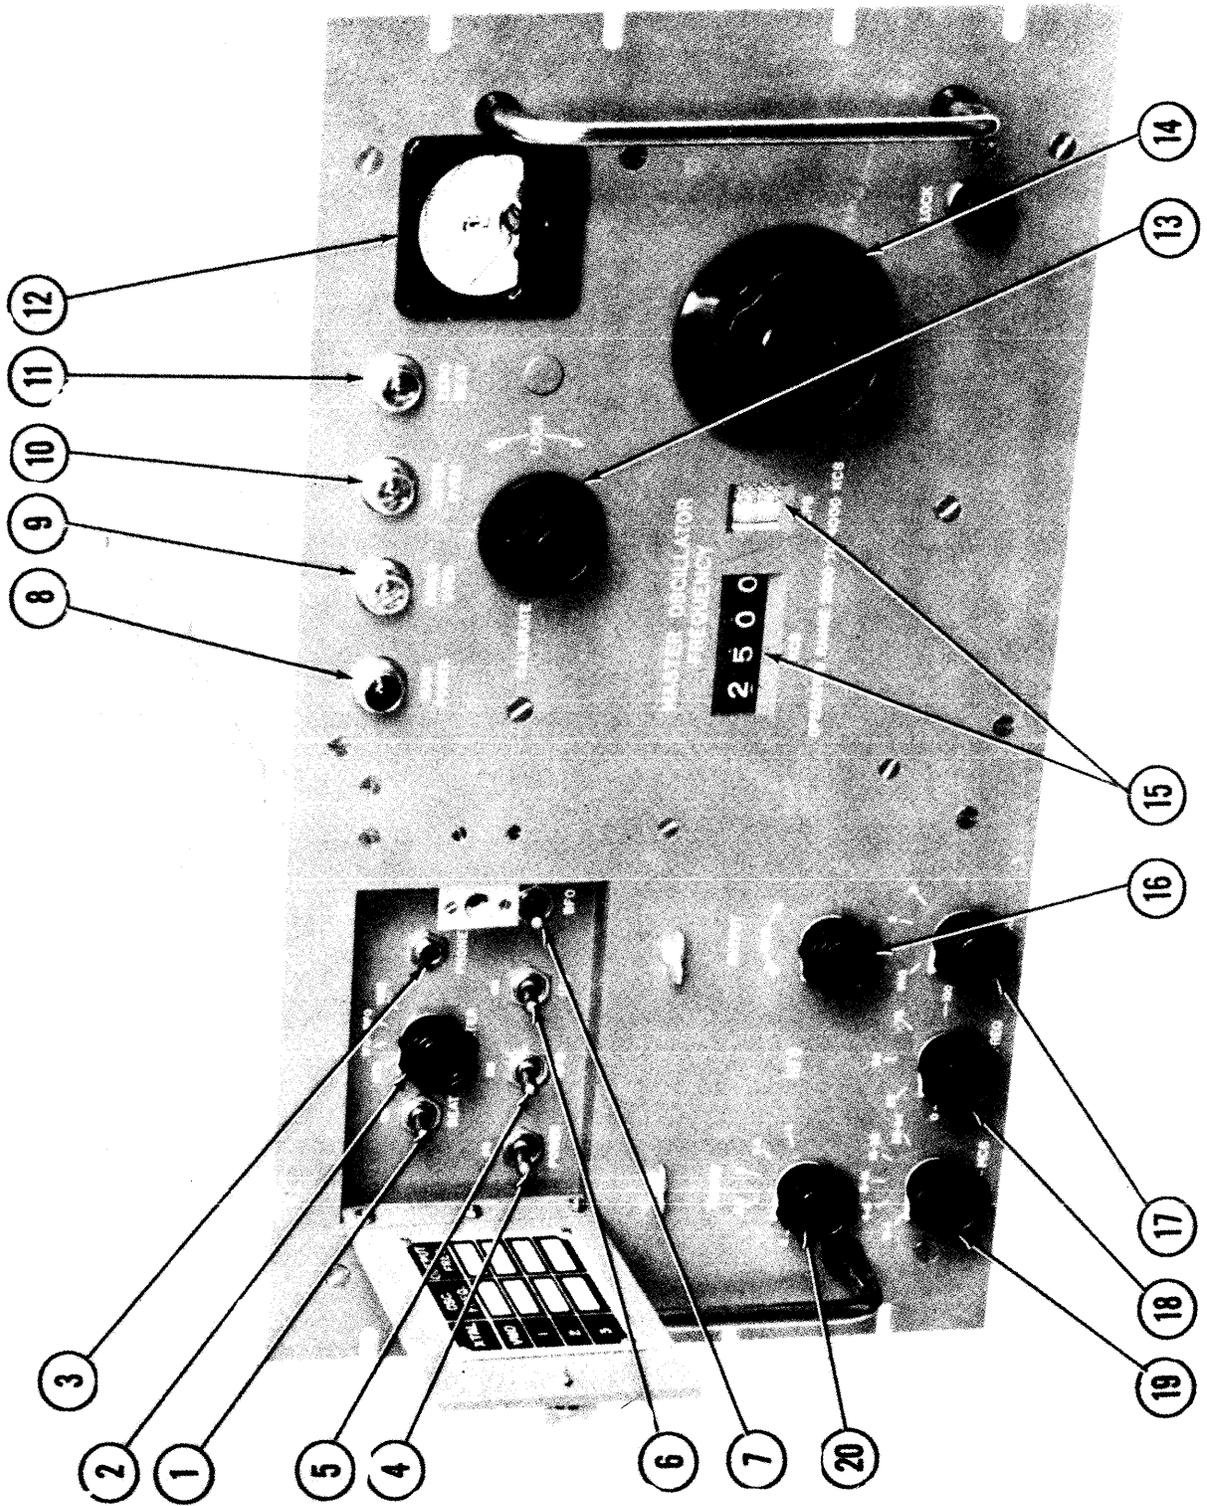
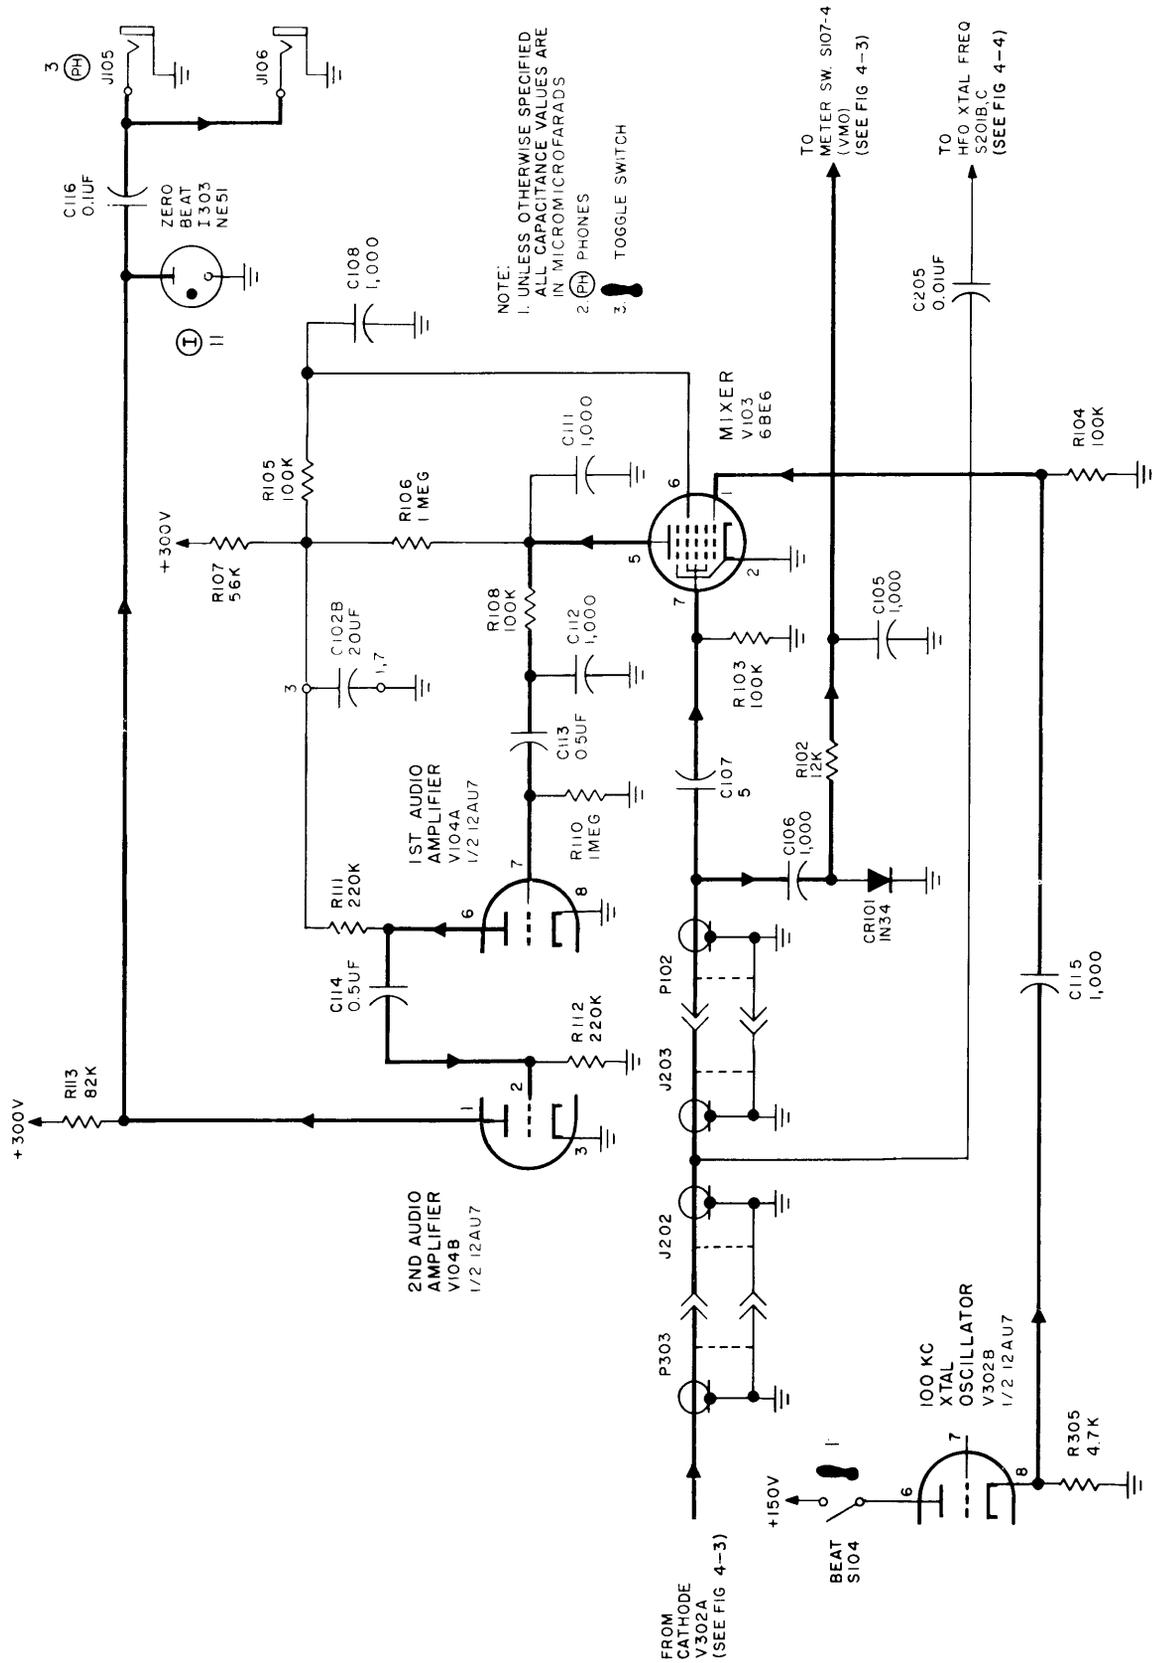
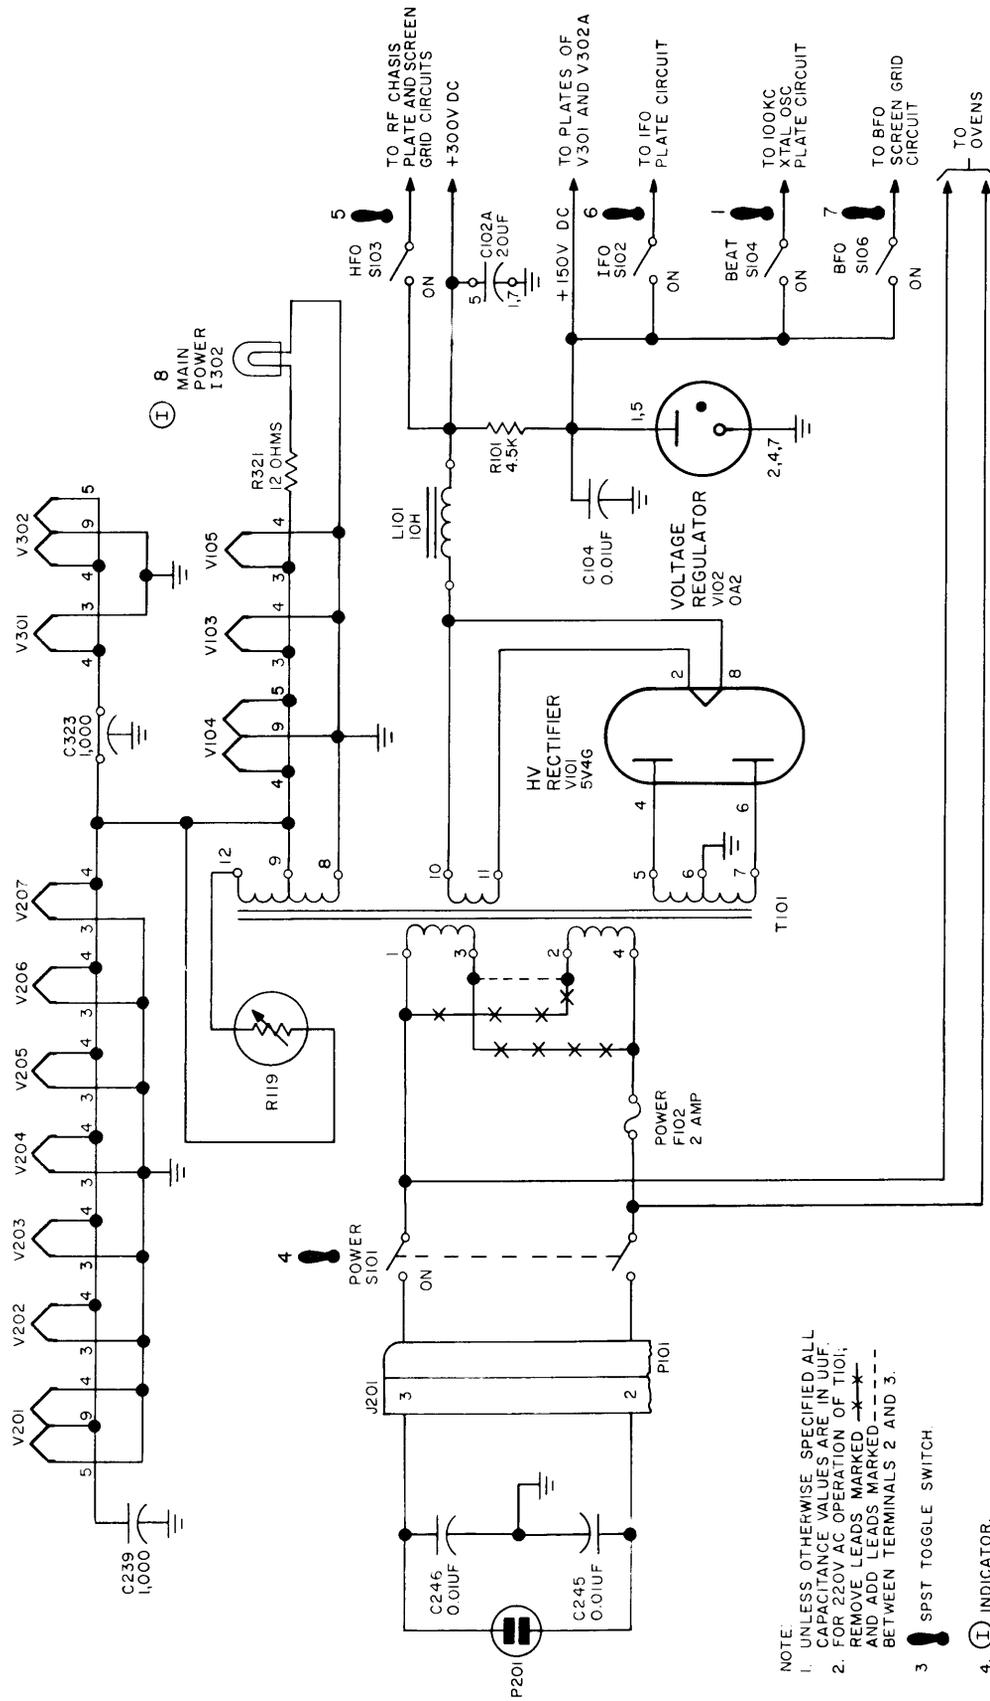

Figure 3-1. Operating Controls
Figure 4-6. Schematic Diagram, Calibrating Chain
Figure 4-8. Schematic Diagram, Power Supply
a. MASTER OSCILLATOR FREQUENCY knob C301 and C302 is a variable capacitor control designated 14 on figure 3-1. It varies the output frequency of the master oscillator within its operating range of 2 to 4 mc. The associated dial, designated 15 on figure 3-1, indicates the oscillator's output frequency. Due to frequency multipliers in the VOX's RF section, the VOX's outputs are as shown in the tabulations on page 4-2.
b. C303 under small cover plate at left of meter is a screwdriver control (undesignated on figure 3-1). Refer to c below.
c. CALIBRATE L301 is a slug inductance control designated 13 on figure 3-1. The screwdriver control, b above, and CALIBRATE control are used in "zero beating" the output of the master oscillator (2 to 4 mc) against the 100-kc standard oscillator. For example, at 2 mc, the 2-mc fundamental of the master oscillator will "zero beat" with the 20th harmonic of the 100-kc standard oscillator.
d. ZERO BEAT I303 is an indicator designated 11 on figure 3-1. During calibration of master oscillator vs 100-kc standard oscillator, the indicator goes off when a harmonic of the 100-kc oscillator matches a harmonic of the 2- to 4-mc master oscillator. (See figure 4-6.)
e. INNER OVEN I301 is an indicator designated 9 on figure 3-1. Refer to f below.
f. OUTER OVEN I304 is an indicator designated 10 on figure 3-1. INNER OVEN and OUTER OVEN indicators go on when the ovens are being heated by resistors R307 and R308 and R309 and R310, respectively. This requires closure of switches S301 and S302 and S303, respectively.
g. MAIN POWER I302 is an indicator designated 8 on figure 3-1. It indicates filaments of tubes V103, V104, and V105 contained in power supply chassis are receiving 6.3-volt filament supply (figure 4-8).
h. Output meter M301 is designated 12 on figure 3-1. In conjunction with METER selector switch, designated 2 in figure 3-1, it indicates output level of HFO, IFO, BFO, or VMO.
(1) XTAL S201. - Switch control designated 17 on figure 3-1. Selects circuit determining VOX's master frequency oscillator. In position VMO, the
(2) XTAL FREQ C210. - Variable capacitor control designated 18 on figure 3-1. When VOX's crystal oscillator stage (V202) is used as the master oscillator, it "pulls" the crystals frequency a limited amount to obtain the desired output frequency.
(3) OUTPUT R215. - Potentiometer control designated 16 on figure 3-1. Controls RF output level of VOX.
(4) BAND-MCS S202. - Switch control designated 19 on figure 3-1. Controls RF multiplying factor of VOX's 2- to 4-mc oscillator; namely, 1 for 2-4 mc output; 2 for 4-8 mc output; 4 for 8-16 mc output; 8 for 16-32 mc output; 16 for 32-64 mc output.
(5) TUNING C225. - Switch control designated 20 on figure 3-1. Tunes HFO output circuits; should be used in conjunction with meter designated 12 on figure 3-1 during tuning operation; that is, maximizing meter deflection.
a. CALIBRATING CHAIN. (See figure 4-6.) - Contained within the oven enclosure of the VMO section
(figure 4-3) is a highly stable 100-kc crystal oscillator against which the VMO is calibrated. When the 100-kc oscillator is turned on, both the 100-kc and the VMO oscillator voltages are fed to mixer V103. Here the difference frequency between one of the 100-kc oscillator's harmonics and the VMO's harmonics is passed by filter action of capacitors C111, C112, and resistor R108. This is a low-pass filter with a rising characteristic at very low frequencies. The audio signal is then amplified successively by the first and second halves of V104. Toggle switch S104 turns on or off the 100-kc oscillator's plate supply. This switch is designated 1 on figure 3-1. ZERO BEAT indicator I303 on the front panel (control designated 11 on figure 3-1) is connected into the plate circuit of the final amplifier so that the zero beat may be seen by the flashing of the neon lamp. Earphones may be plugged in at the output of the final amplifier at jack J105, in order to pick up the zero beat frequency audibly. The circuit, built around crystal CR101 containing C105, C106, and R102, is for metering the VMO output.
c. POWER SUPPLY. (See figure 4-8.) - Transformer T101 supplies the necessary power and filament voltages. V101 is a full-wave vacuum tube rectifier with choke (L101) filter output. C104 provides low impedance paths to grounds for any RF current while R101 is used to limit the current passing through tube V102. This tube is a glow discharge regulator type whose output voltage is held constant and provides +150 volts. R119 is a "ballast lamp" which regulates V301 and V302 filament supply to 450 ma for frequency stabilization purposes.
(1) POWER S101. - Toggle-switch control designated 4 on figure 3-1. Turns power on the VOX.
(2) PHONES J105. - Jack designated 3 on figure 3-1. Audible monitor of "zero beat" between VOX's 100-kc and master frequency oscillators.
(3) BEAT (ON-OFF) S104. - Toggle-switch control designated 1 on figure 3-1. Supplies B+ to VOX's 100-kc oscillator so that mixer V103 in calibrating chain receives 100-kc and VMO oscillator voltages for production of beat tones.
(4) HFO S103. - Toggle-switch control designated 5 on figure 3-1. Connects B+ to HFO tubes V202 through V207.
(5) IFO S102. - Toggle-switch control designated 6 on figure 3-1. Connects B+ to IFO tube V201.
(6) BFO S106. - Toggle-switch control designated 7 on figure 3-1. Connects B+ to BFO tube V105.
FROM CATHODE FOLLOWER V302A (SEE FIG. 4-6)